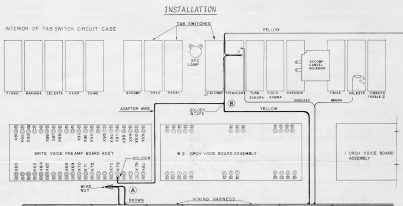

Fig. 1
3. Remove the two brown wires from terminal "X76" of the Brite Voice Preamp Board Assembly. Connect these wires together using the wire nut provided. (See "A" on Fig. 1).
4. Solder one end of the adapter wire to terminal "X76" of the Brite Voice Preamp Board Assembly. (See "A" on Fig. 1).
5. Strip approximately 1/4 inch of insulation away from one of the yellow wires attached to the "Tremulant" tab in the 8' Accompaniment Tab Bank. Solder the other end of the adapter wire to this wire. Insulate with plastic tape. (See "B" on Fig. 1). Replace the shield, top and back panel.